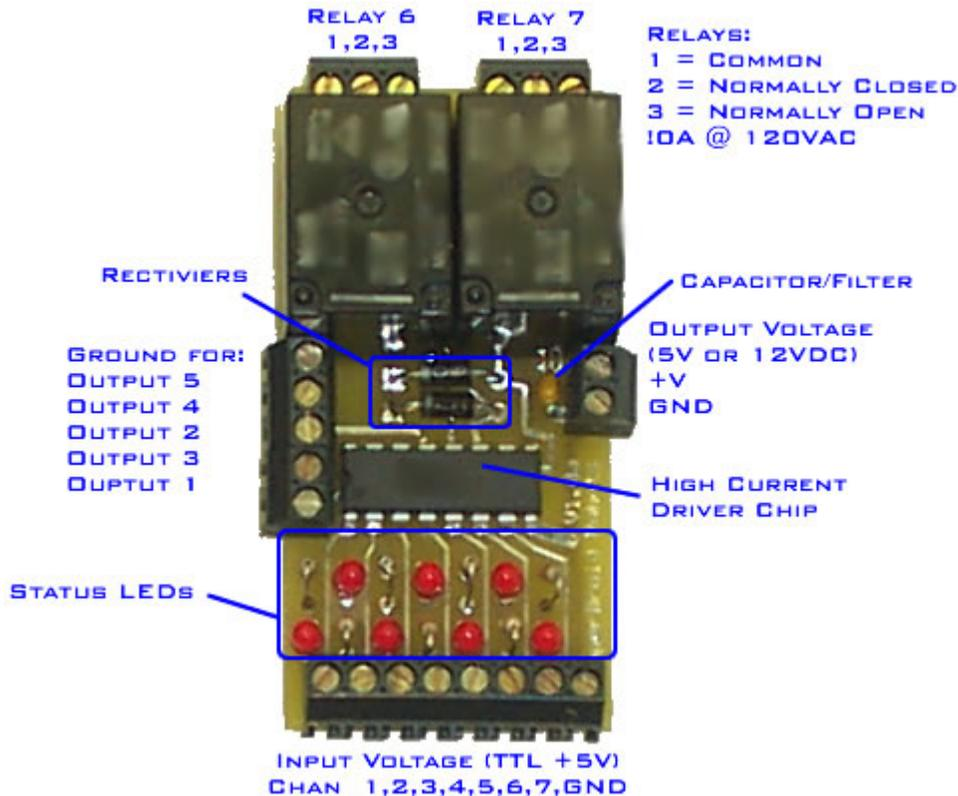

Figure 2: TTL High Current Driver with 2 Power Relays
1. Start by laying the board out in front of you. The Label should be on the bottom right topside. Refer to Figure 2.
2. Insert all the LEDs as shown in Figure 2 in a staggered location. The long leg of the LED should be towards the TTL Input edge of the board (they will not work if put in the other way).
3. Insert all the resistors as shown in Figure 2. The orientation of the resistor is not important.
4. Insert the Diodes. Orientation of the Diodes is important. It will short the circuit if put in the wrong way. The lead that comes out of the side of the diode with a line on it should go in the square pad hole (face towards the left edge of the board as shown in Figure 2).
5. Insert the capacitor as shown in Figure 2. Orientation is not important.
6. Install the Screw Terminals (if provided) as shown in Figure 2.
7. Insert the Relays as shown in Figure 2. All the relays should be placed in their locations at the same time before soldering. Push the relays down so they are all flat and start soldering the terminals, checking to make sure the relays stay flat.
8. Insert the high current driver IC. The orientation is important. The chip will be shorted and will not work if put in wrong. Pin one goes in the square pad hole such that the notch on the chip is closest to the label on the board. Refer to Figure 2.
9. Attach either 12VDC or 5VDC to the Output Voltage using the polarity shown in Figure 2. Turn on the power, no sparks or smoke should appear at this time.